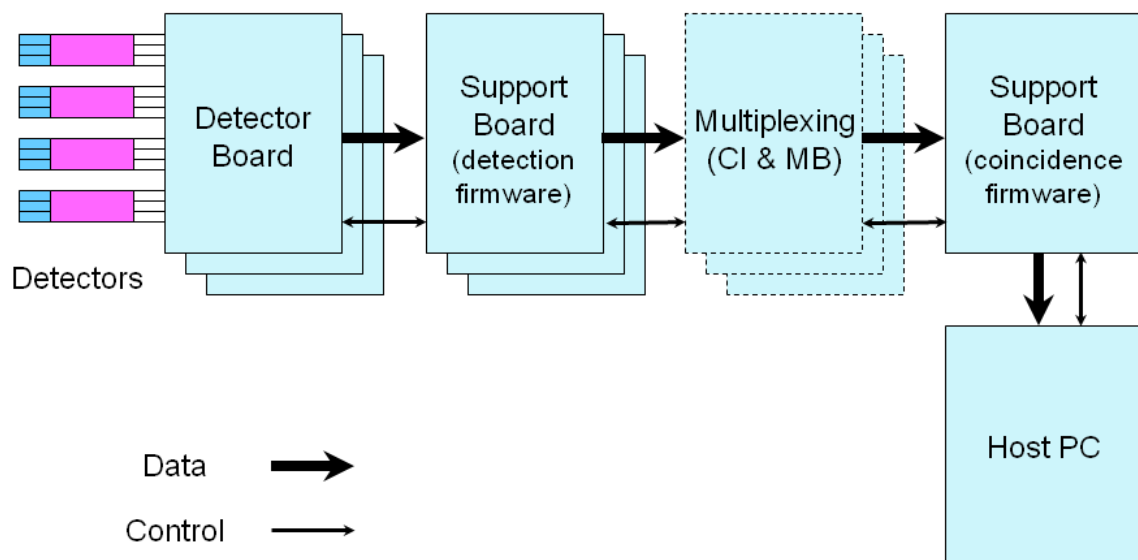

Fig. 2.1: Schematic of the OpenPET system architecture.
The OpenPET system architecture is shown in Fig. 2.1. There are four types of custom electronics boards in the system: the Detector Board (DB), the Support Board (SB), the Coincidence Interface Board (CI), and the Multiplexer Board (MB). The Support Board plays two roles in the system, depending on the firmware.